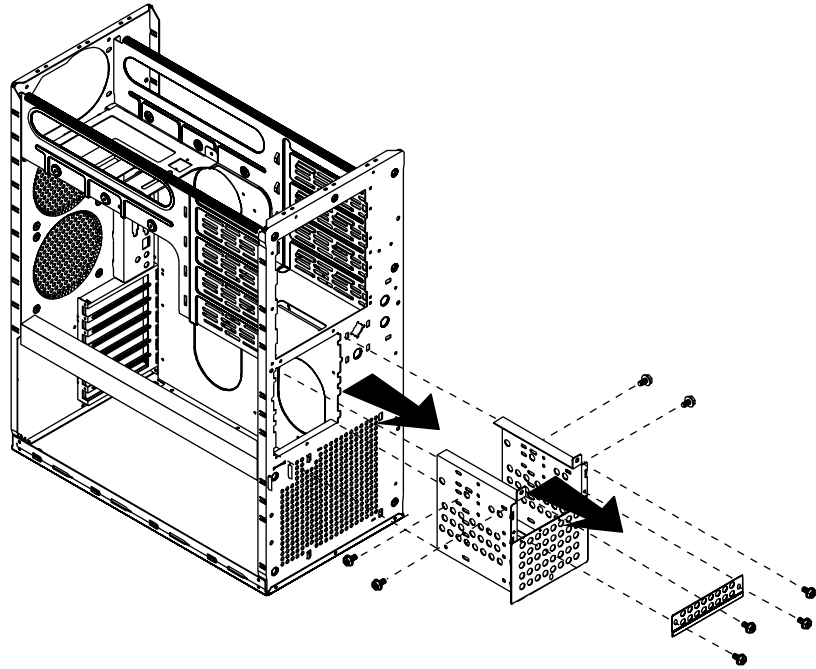

Figure 20: Removing the 3.5-inch Drive Bracket
5. Remove the screws securing the drive bracket to the system chassis, and remove the drive bracket from the chassis. Doing so also removes the 3.5-inch metal filler panel from the front of the drive bracket (see Figure 20).